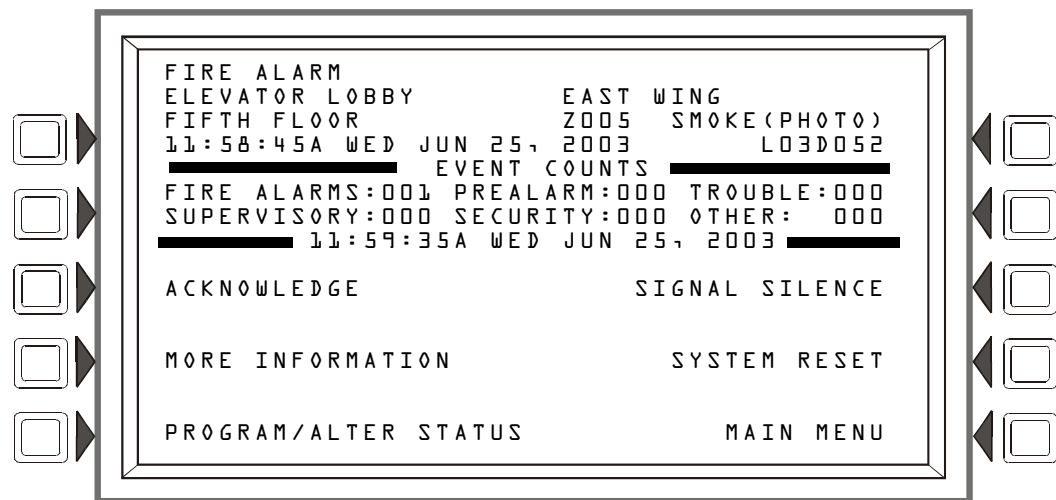

Figure 2.2 Fire Alarm Message Display Example
- Displays FIRE ALARM in the upper left corner of the display, a Type Code that indicates the type of device that activated the fire alarm, and other information specific to the device. The message occupies the top four lines of the screen, replacing the System Normal message as shown in Figure 2.2 below. Refer to “Point Events Format” on page 12 for a full description of each message field